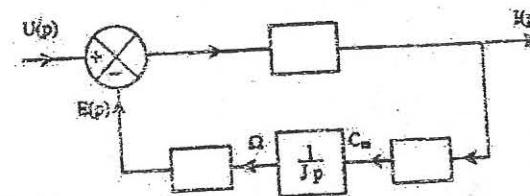

Figure 1
1.2.1.  $U(p)$ ,  $I(p)$ ,  $C_m(p)$ ,  $\Omega(p)$  and  $E(p)$  are respectively the Laplace transforms of  $u(t)$ ,  $i(t)$ ,  $C_m(t)$ ,  $\Omega(t)$  and  $e(t)$ . Show, by supplementing the blocks of the causal diagram of figure 1, that this diagram interprets the equations (1), (2), (3) and (4).